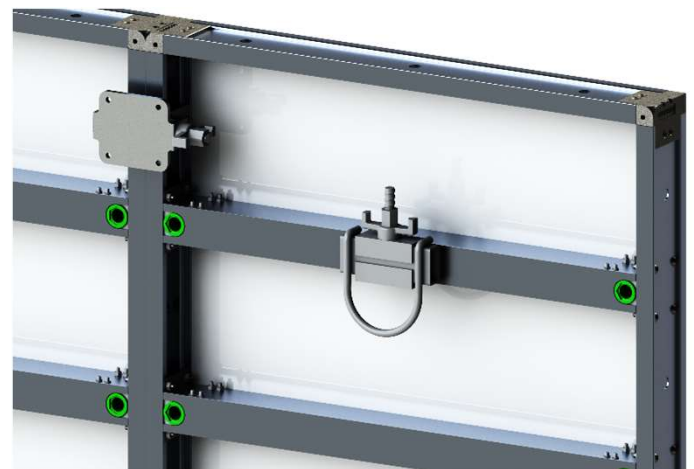

Figure 2. Personal Tie-Off Bracket attached to STD. Panel Inner-Rail
- To attach the Personal Tie-Off Bracket to a horizontal inner rail or horizontal siderail joint, loosen the wing nut on the bracket and slide the hooked plates above and below the rail flanges, then snugly tighten the wing nut until there is no movement between the bracket and the panel rail. (See Figure 2 showing the bracket attached to a standard panel inner rail)